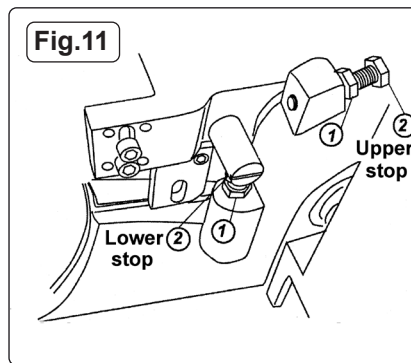

Fig.11
**5.7. ADJUSTING THE BOW RETURN STROKE (See Fig.11)**
- 5.7.1. The lower stop seen in fig.11 is used to control the limit of downward movement of the bow. This is factory set to prevent the blade touching the vice and should not normally require adjustment. The blade cover is shown removed in Fig.11.
- 5.7.2. The upper stop seen in fig.11 is used to control the upper limit of movement of the bow. This is factory set and would not normally need adjusting.